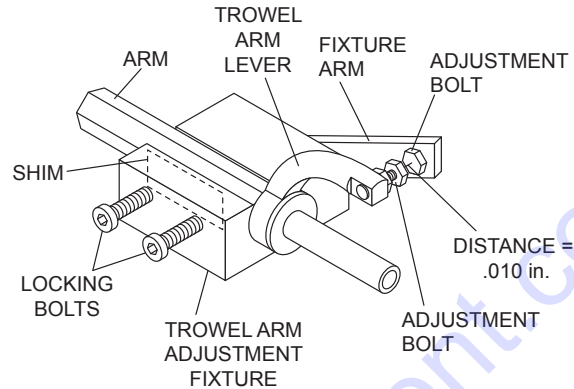

Figure 58. Trowel Arm Adjustment Fixture Components
3. Unscrew the locking bolts on the adjustment tool and place the trowel arm into the fixture channel as shown in Figure 58. A thin shim may be required to cover the blade holes on the trowel arm. Make sure to align the trowel adjustment bolt with the fixture adjustment bolt.
5. Adjust the bolt "distance" shown in Figure 58 to match one of the arms. The other arms will be adjusted to match this distance.